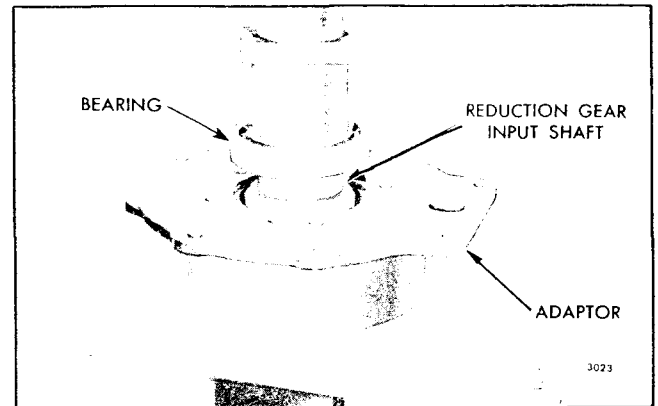

Fig. 91 - Installing Reduction Gear Input Gear Bearing on Input Gear (1.5:1 Ratio)
- g. Place a sleeve on the inner race of the bearing and a steel plate on top of the sleeve as shown in Fig. 91. Then press the bearing straight on the hub of the input gear and against the shoulder on the gear.